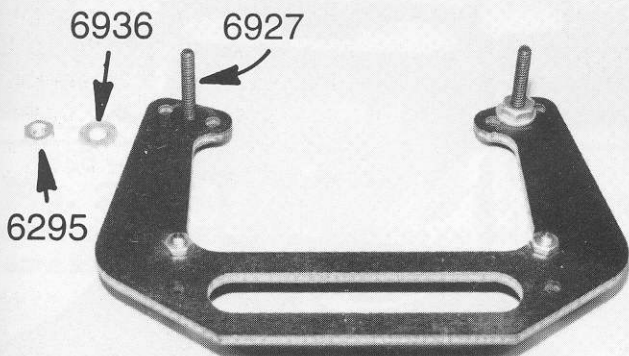

Fig. 18
□ **Fig. 17** In bag #6-1 you will find the #6232 new graphite front shock strut. From bag #6-14 remove two #6270 short steel ball ends and two #7260 small 4-40 plain nuts. Thread the ball ends into the graphite shock strut (see fig. 18) and then thread the plain nuts onto the ball ends.
□ **Figs. 18 & 19** From bag #6-10 remove two #6927 4-40 x 3/4" SHCScrews, two #6936 #4 aluminum washers, and two #6295 4-40 plain nuts. Then from bag #6-1 remove two #6925 4-40 x 1/2" SHCScrews. Thread the two #6927 4-40 x 3/4" SHCScrews into the middle of the three holes on the top of the shock strut. The heads of these screws will be on the same side as the #6270 steel ball ends. Slip the washer then the nut on the screw. Now do the second screw. Now line up the graphite shock strut with the back side of the front suspension mounts as shown. Fasten the shock strut to the #6207 mounts using the two #6925 SHCScrews.